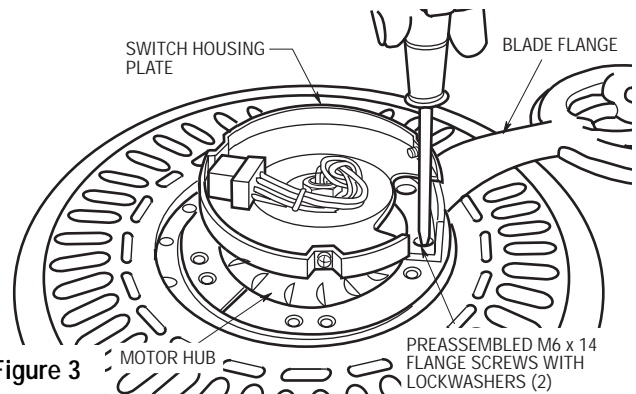

Figure 3
- 8. Rotate the motor hub until the flange screw hole is next to the cutout in the switch housing plate. Attach one blade assembly to the motor hub using two M6 x 14 flange screws with lockwashers preassembled in flange. Make sure the screws are **NOT** tightened. (Figure 3.) Repeat this procedure for the other four blade assemblies.